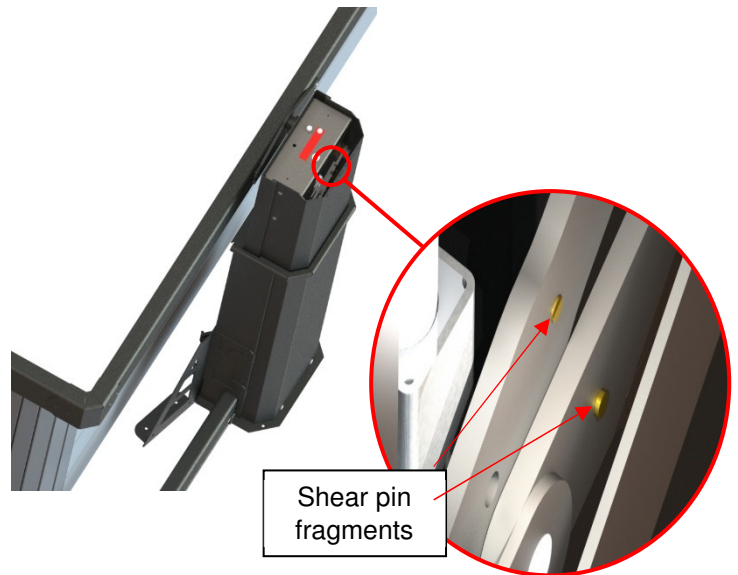

Figure 30
- 3) Locate the two shear pin fragments. (Figure 30)